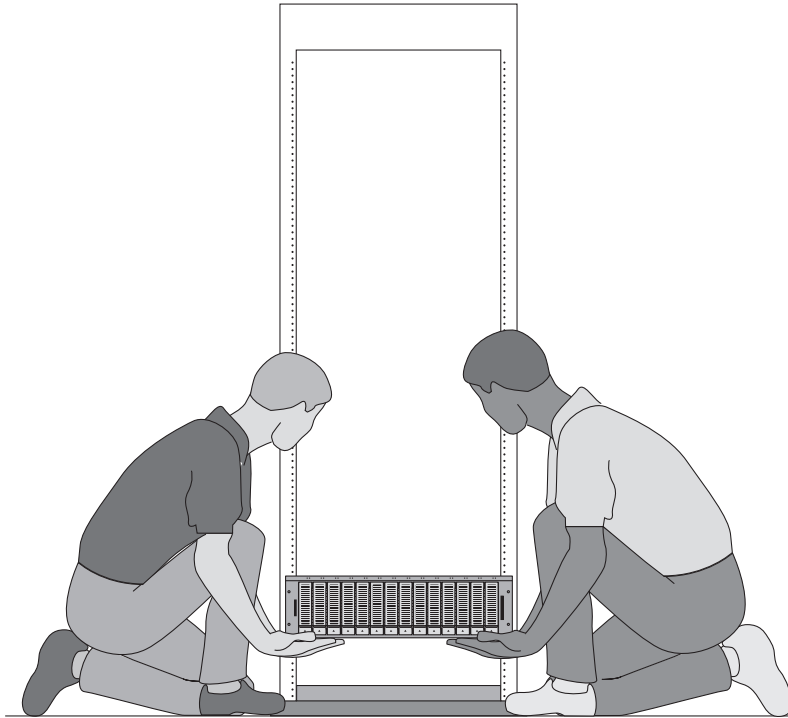

FIGURE 2-32 Positioning the Tray in the Rack
2. Using two people, one at each side of the tray, carefully lift and rest the tray on the bottom ledge of the left and right rails (FIGURE 2-32).